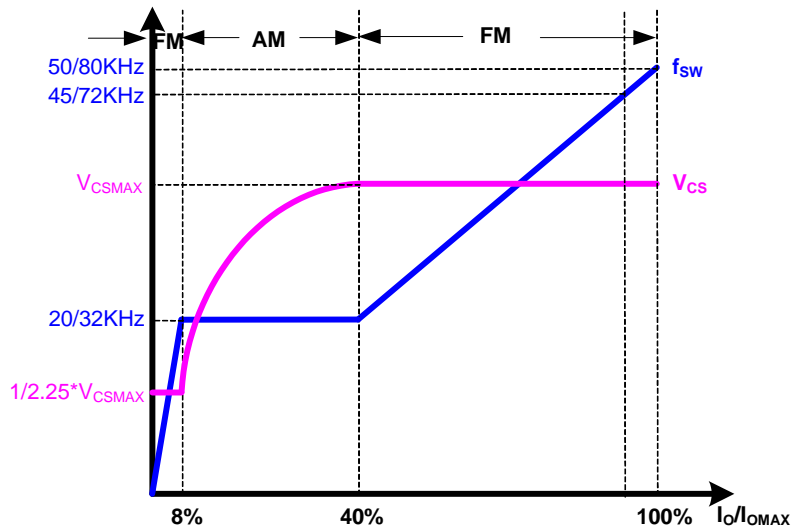

Figure 4. Segment Peak Current and Operating Frequency at CV Mode
In order to avoid audible noise issue, AP3785T uses 3-segment primary peak current control method at constant voltage (CV) mode, the current sense threshold voltage is multiple segments with different loading, as shown in Figure 4, which are  $V_{CS\_H}$  for high load, varied  $V_{CS\_M}$  for medium load and  $V_{CS\_L}$  for light load. In no load and ultra light load condition (NL mode), the current reference is also  $V_{CS\_L}$ . But the operation in NL mode is different, which will be described in next section.